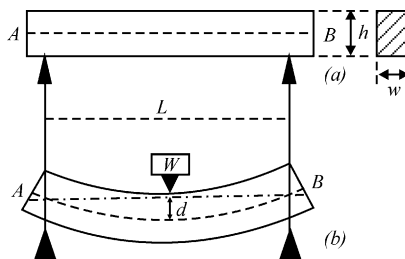

Figure 1
- Figure 1(a) shows a beam of width  $w$  and height  $h$  placed on two fulcrums, the distance between which is  $L$ . Suppose a load  $W$  is placed on the beam, causing it to bend as shown in Fig. 1(b) (the deformation in the figure is exaggerated; in reality the deformation is extremely small). As a result, the upper side of the beam is shortened due to compression, and the lower side of the beam is lengthened. In between, there must be a layer  $AB$  that remains the same length, which is referred to as the neutral
where  $F$  is the lengthening or shortening force;  $A$  denotes the area of the cross-section;  $L$  is the original length of the metal beam, and  $\Delta L$  is change in length of the beam. As shown in Fig. 1(b), the layers above and below the neutral surface either lengthen or shorten, which results in